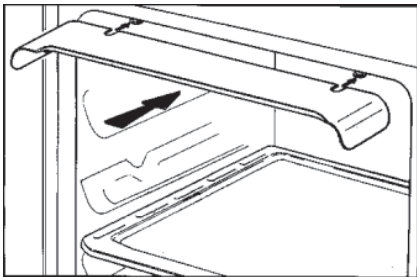

Figure 22
- Fit the knob guard to protect it from hot air, as shown in Fig. 22.
- Fit the knob guard to protect it from hot air, as shown in Figure 22.